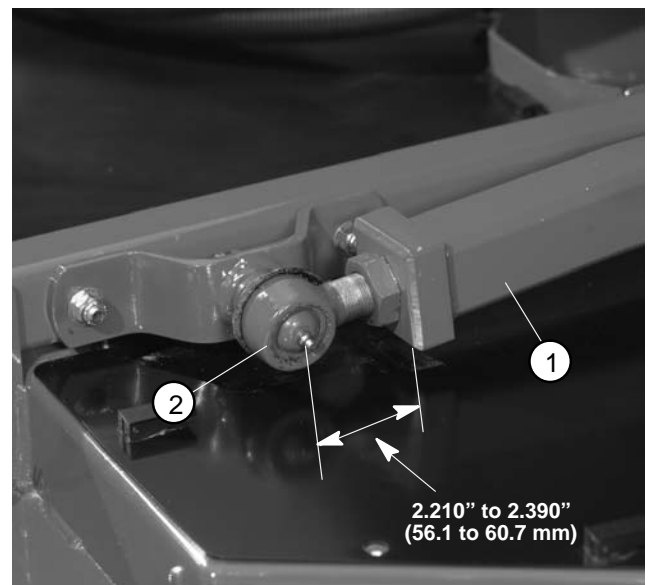

Figure 4
6. If removed, install ball joint to lift arm. Distance from end of lift arm to center of ball joint should be from 2.210" to 2.390" (56.1 to 60.7 mm) (Fig. 4). Make sure that ball joint is horizontal and that stud is centered in ball joint. Torque ball joint jam nut from 150 to 175 ft-lb (203 to 237 N-m).